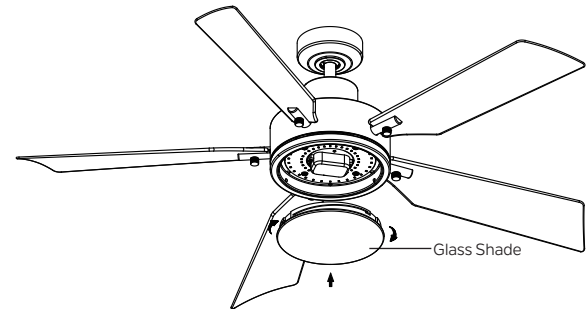

Fig. 23
Step 2. Secure the glass shade to light plate by turning in a clockwise direction. Turn the glass shade gradually until it snaps on to the light plate. DO NOT OVER-TIGHTEN. (Fig. 23)